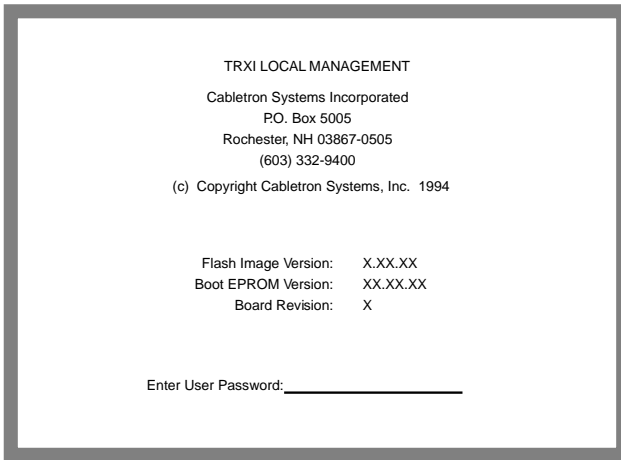

Figure 5-3. TRXI Password Screen
1. Turn the terminal on. The TRXI Password screen shown in Figure 5-3 appears.